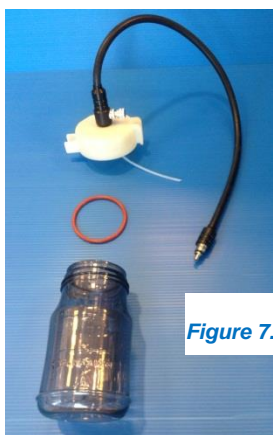

Figure 7.
- To remove the O-ring, pull out the portion of it that lies in the notch along the bottle's rim (see Figure 7). Attempting to pry the O-ring out of its groove could damage the O-ring and/or the bottle.